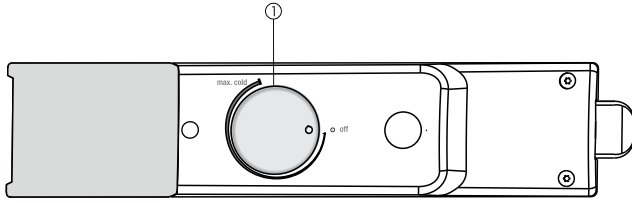

Fig. 2
- ▶ Turn the temperature controller *Fig. 2 (1)* clockwise to the position of the middle temperature point between **off** and **max cold**.